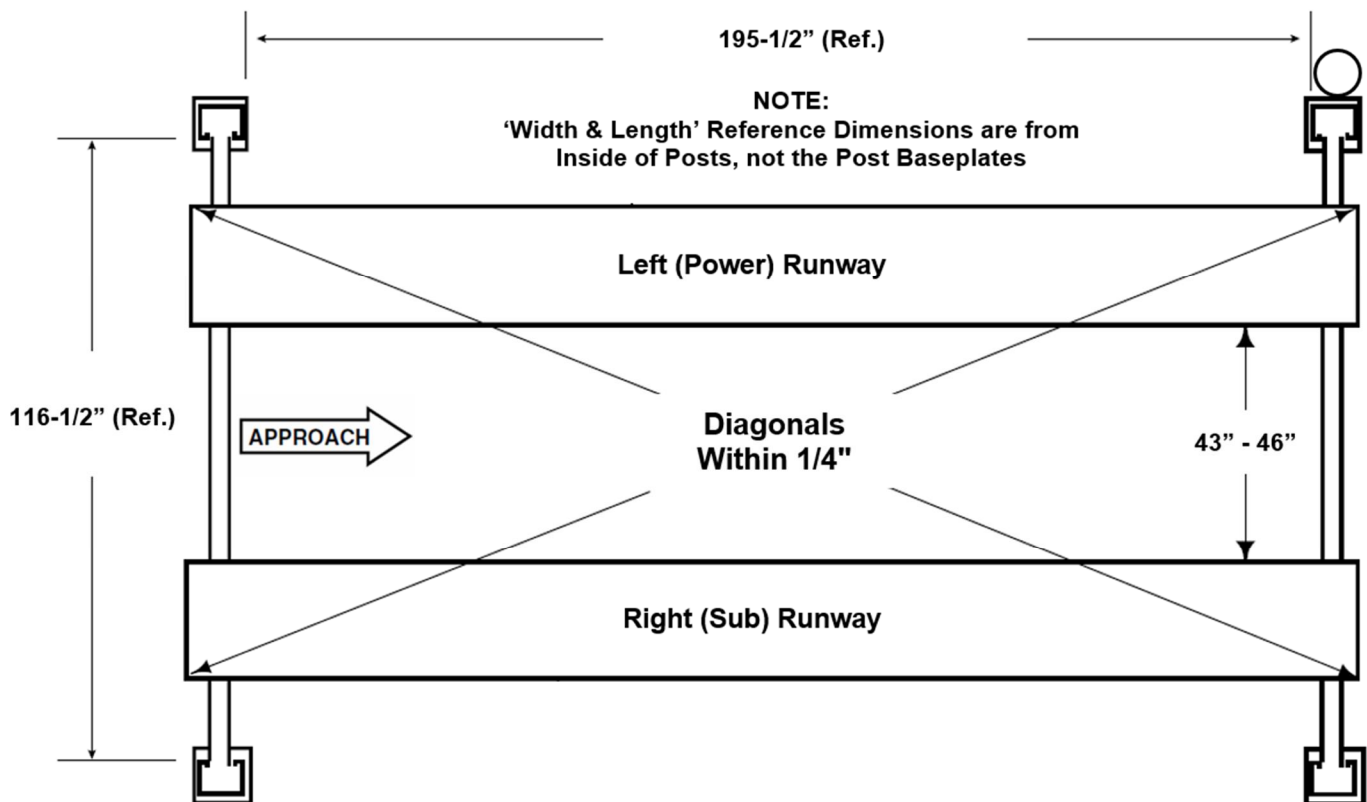

Fig. 18
- 1) Before proceeding, double check measurements using the diagram below, **Fig. 18**. Ensure to keep columns square to center line of lift while checking dimensions side-to-side, front-to-rear, and diagonally. Note: Diagonals must be equal to within 1/4".